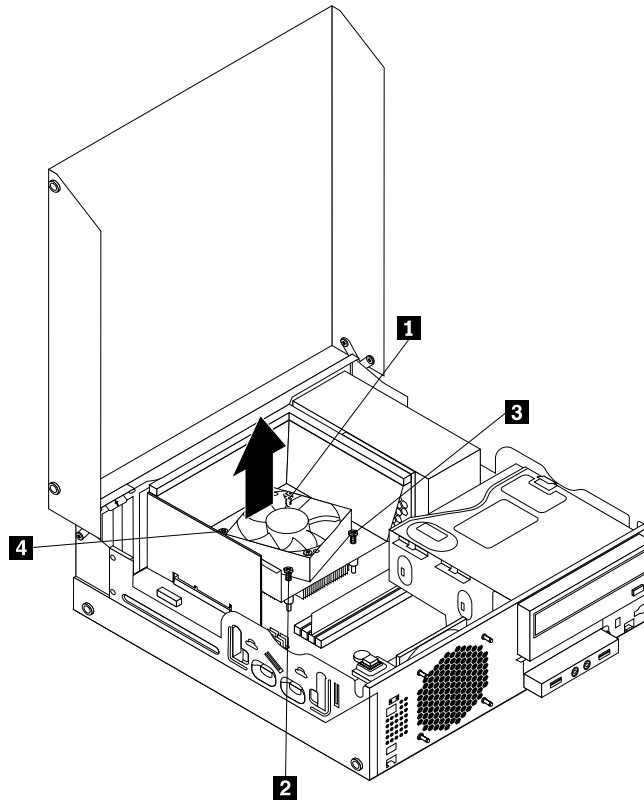

Figure 31. Screws that secure the heat sink and fan assembly
- Follow this sequence to install the four screws to secure the new heat sink and fan assembly, as shown in Figure 31 “Screws that secure the heat sink and fan assembly” on page 48: